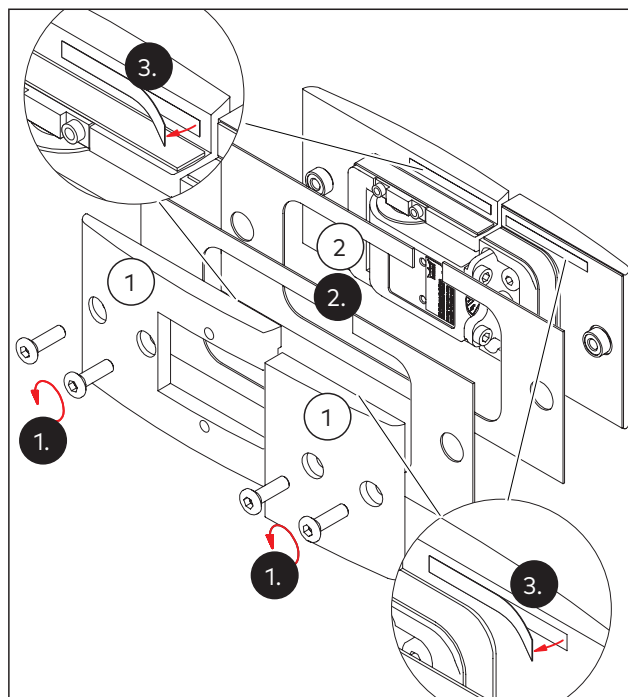

Fig. 28 Preparing the double-action hinge
1. Disassemble the counter-plates (Fig. 28/1).
2. Select the appropriate gaskets (Fig. 28/2) according to glass thickness (see Chapter 4.1).